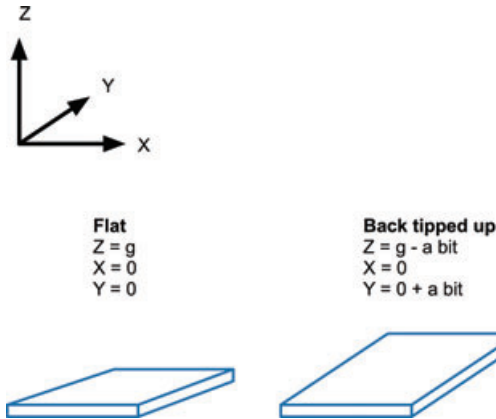

FIGURE 8-15 The effect of gravity on the accelerometer
These modules are three axis accelerometers that measure the force applied to a tiny weight inside the chip. Two of the dimensions, X and Y are parallel to the modules PCB. The third dimension (Z) is at 90 degrees to the module's surface. There will normally be a constant force acting on this dimension due to gravity. So if you tip the module, the effect of gravity starts to increase on the dimension in which you tip it (see Figure 8-15).